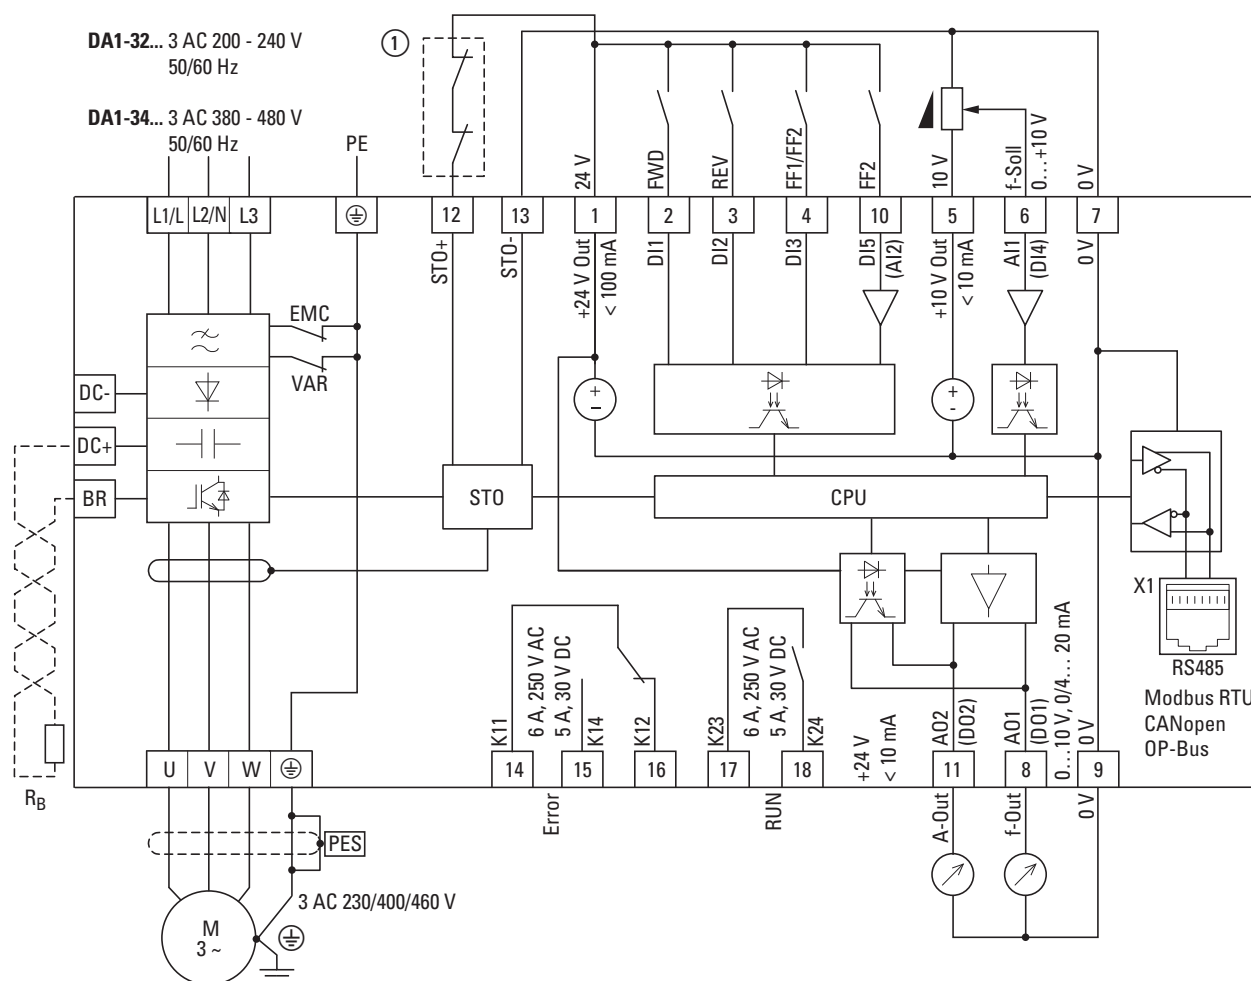

Figure 85: Block diagram for DA1-32..., DA1-34..., FS2 and FS3 frame sizes
① Direct enable signal for STO function or relay: Safe Torque Off (STO), SIL 2 (EN 61800-5-2) as in → Figure 85, page 116.